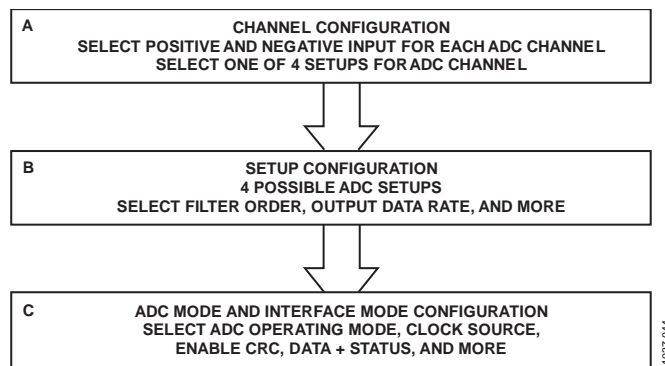

Figure 41. Suggested ADC Configuration Flow
Figure 41 shows an overview of the suggested flow for changing the ADC configuration, divided into the following three blocks:
- Channel configuration (see Box A in Figure 41).
- Setup configuration (see Box B in Figure 41).
- ADC mode and interface mode configuration (see Box C in Figure 41).